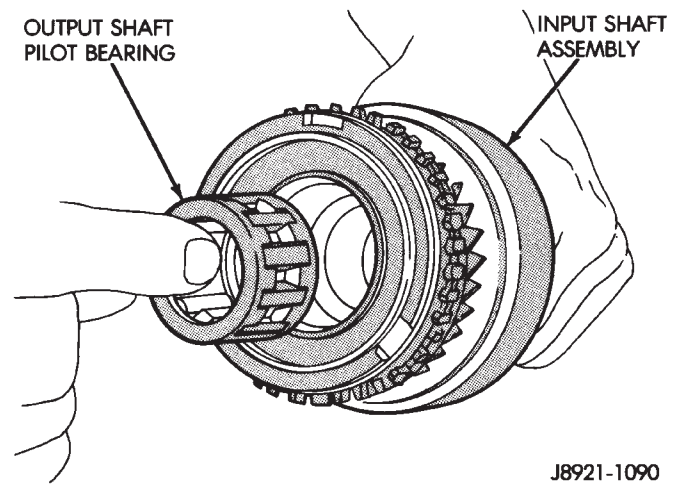

Fig. 60 Removing Input Shaft Pilot Bearing
- (8) Remove output shaft pilot bearing from input shaft (Fig. 60).